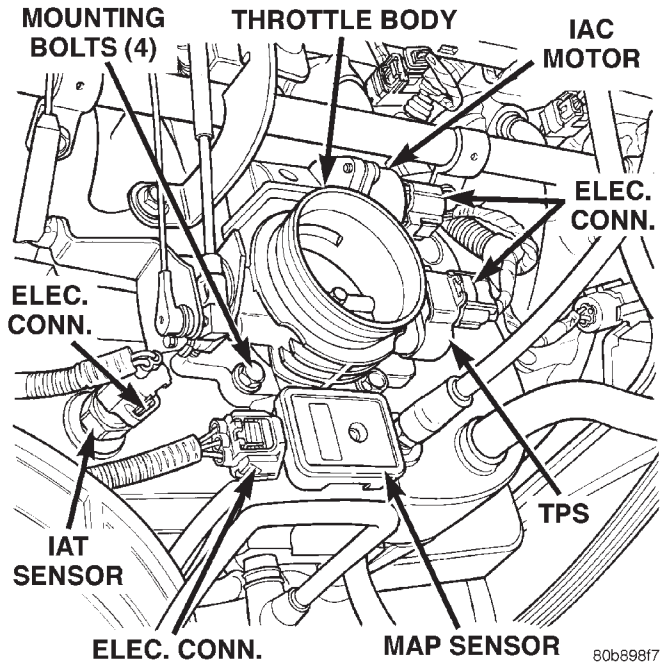

Fig. 10 IAT, MAP, IAC, TPS Sensor Locations—4.0L Engine
(15) Inspect radiator grille area, radiator fins and air conditioning condenser for restrictions.
(16) 4.0L Engine: Verify MAP, Intake Manifold Air Temperature (IAT) sensor, TPS and Idle Air Control (IAC) motor connectors are firmly connected (Fig. 10). Be sure throttle body mounting bolts (Fig. 10) are tight.